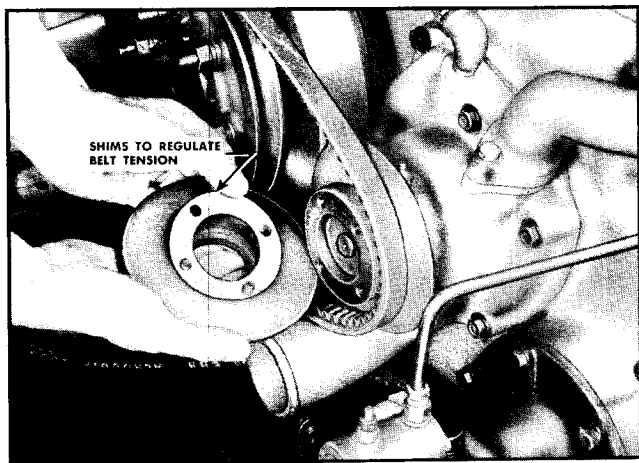

Fig. 4-27. Water pump pulley shims
2. Install the belt over the pulley on the vibration damper and pulley-half on the water pump. Install the remaining half of the pump pulley using shims to adjust belt to proper tension. Fig. 4-27. Refer to Page 3-16 for belt adjustments.